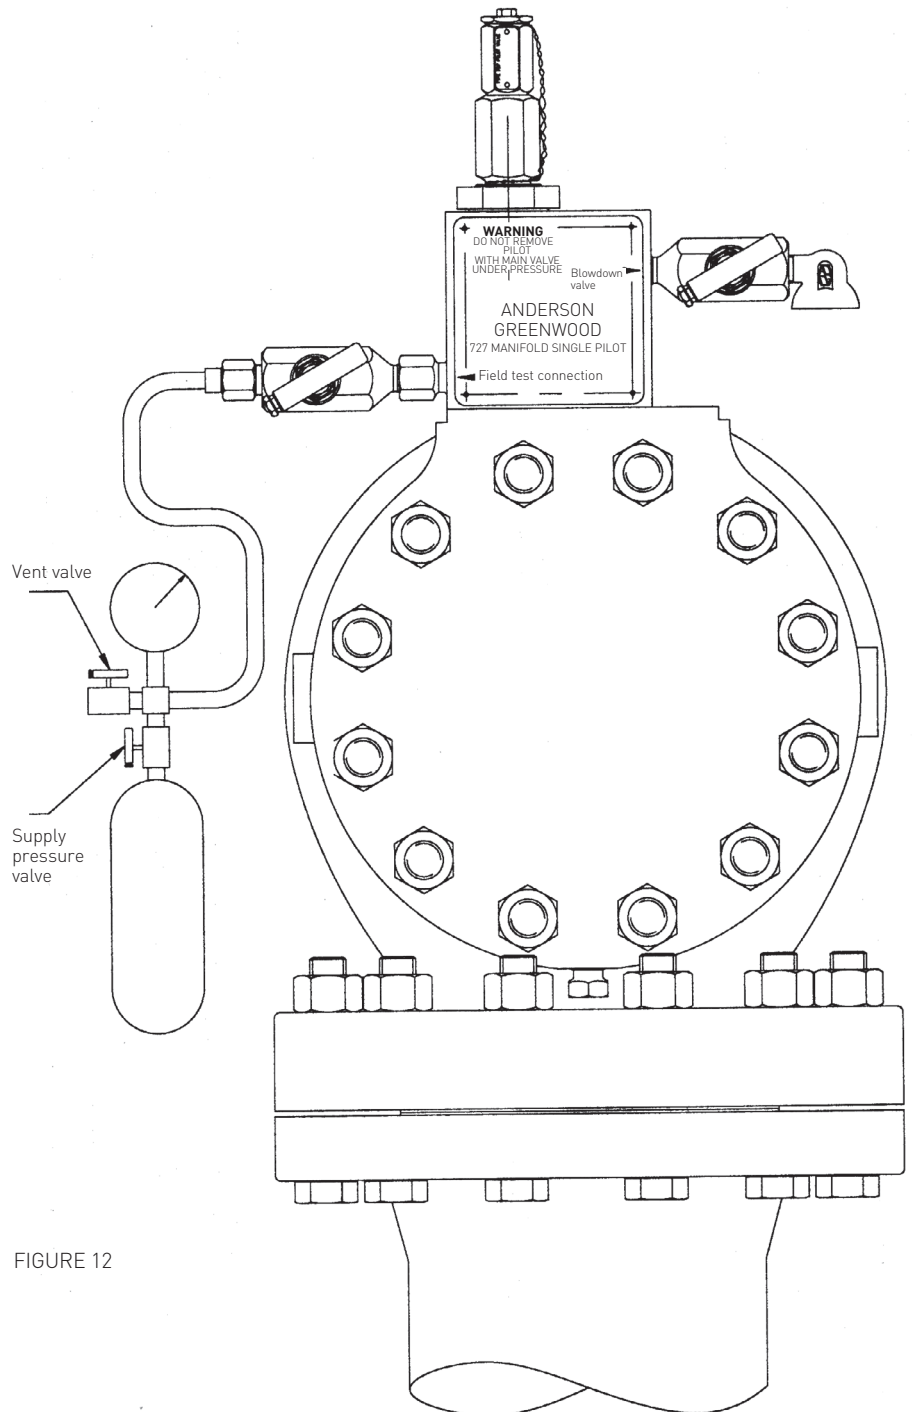

FIGURE 12
- B. Hot set pressure verification using Anderson Greenwood Field Test Kit (See Figure 12)